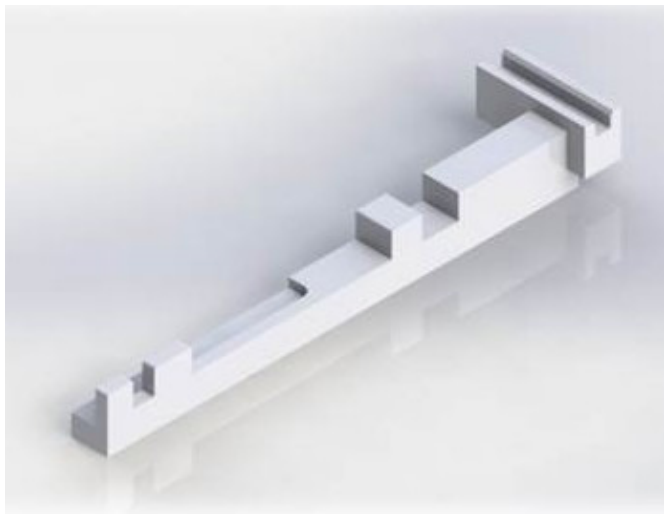

Figure 1. Alignment Tool
- Alignment Tool - Part No. 35466 (See Figure 1)